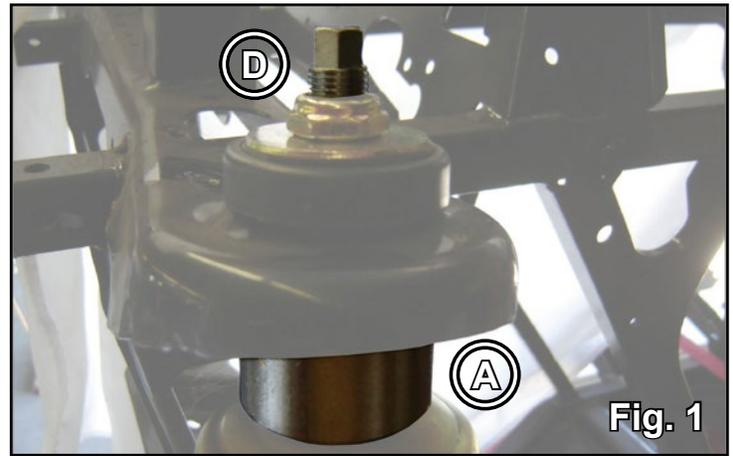

Fig. 1
4. Screw Strut Adapter (A) to top of Strut and tighten. See Fig. 1.
5. Replace round, top plastic Bearing on top of Strut Adapter (A).
6. Place Strut Assembly back in frame and install Adapter Screw (D) and tighten. See Fig. 1.